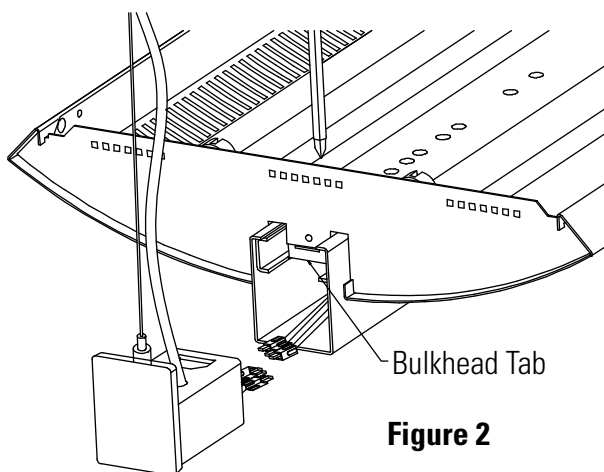

Figure 2
- The first suspension in each run should be from the power feed end set, which contains a power cord and an end cap. (Fig. 2)
- Connect wiring before sliding the power feed end cap onto the fixture. (Fig. 2) Bend back the tab on the bulkhead. (Fig. 2)
- Install the non-power end cap to the end of the run as done at the beginning of the run in (Fig. 2)